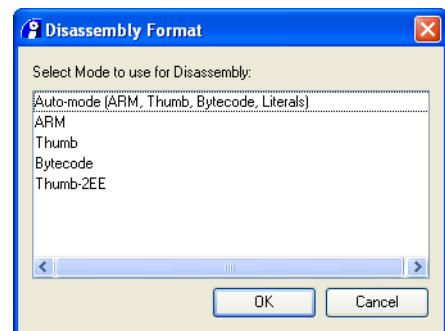

Figure 4-11 Disassembly Mode selection box
5. Select **Disassembly Format...** from the context menu to see the Disassembly Mode selection box, shown in Figure 4-11.